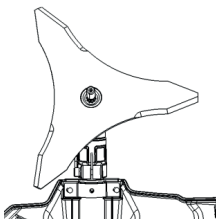

Fig. 9
2. Align the blade onto the support plate, insert the T20 TORX key inside the hole, and put the blade on the support plate, align the flange, dust cover, and screw the nut with provided socket wrench by anti-clockwise direction until it is tight enough (Fig. 9&10&11).